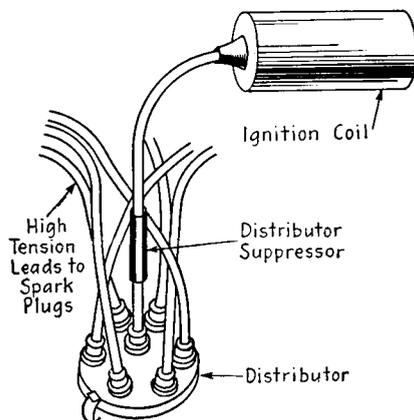

FIG. 20-5. Distributor-suppressor installation.
tension lead, which connects the ignition coil and the center connection of the distributor. Figure 20-5 shows a typical distributor-suppressor installation. The suppressor should be installed close to the distributor connection.
**Ignition wiring.** The varnished high-tension leads that carry the ignition current from the ignition coil to the distributor, and from the distributor to the spark plugs. The distributor, ignition coil, and ignition wiring are shown in Fig. 20-5.